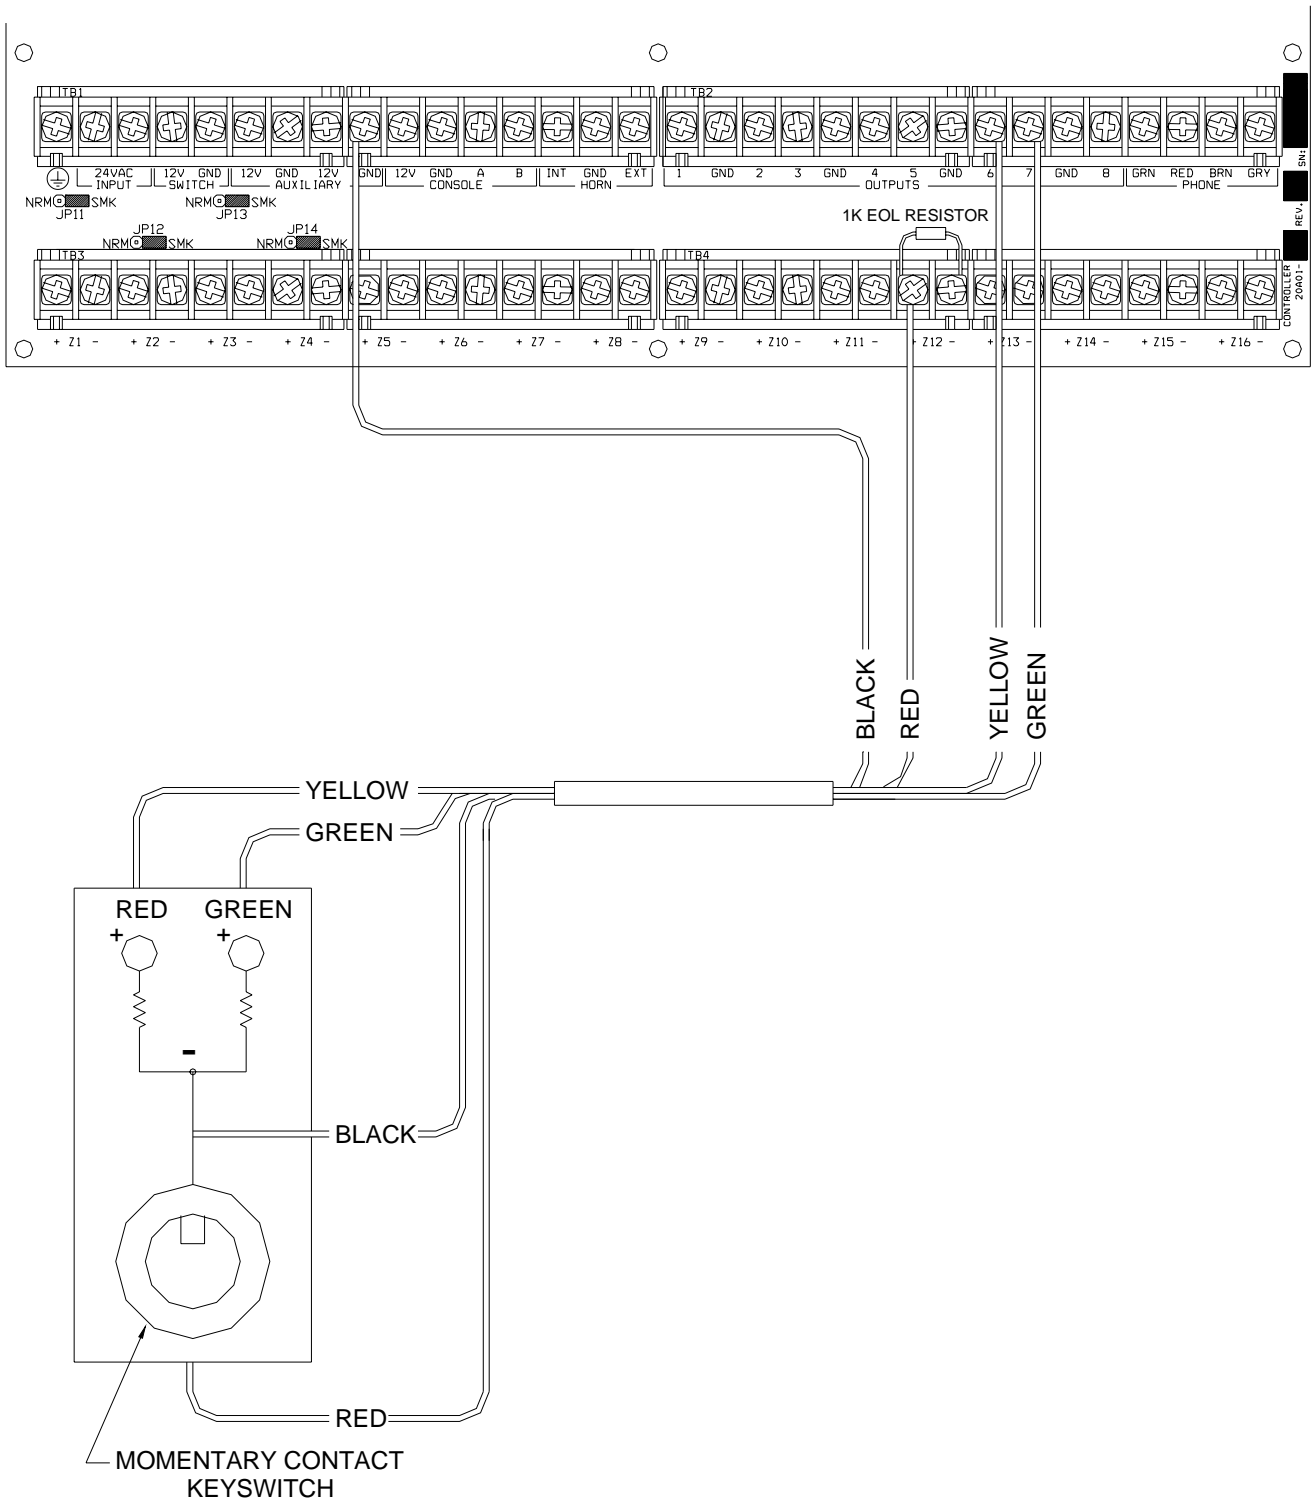

FIGURE 9 - REMOTE KEYSWITCH CONNECTIONS
4. Refer to **FIGURE 9 (REMOTE KEYSWITCH CONNECTION)** for this configuration.